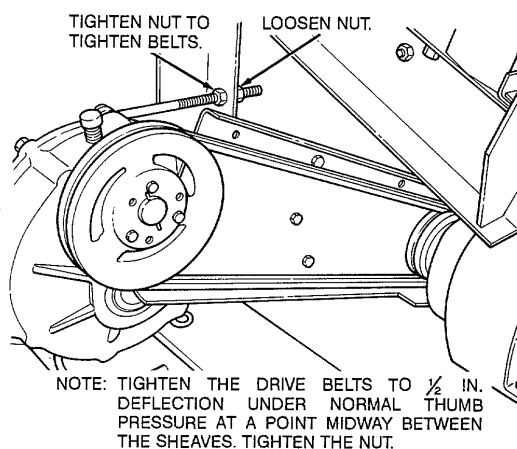

Figure 59. Rotary elevator drive belts, adjustments.
- Adjust the rotary elevator drive belts (fig. 59).